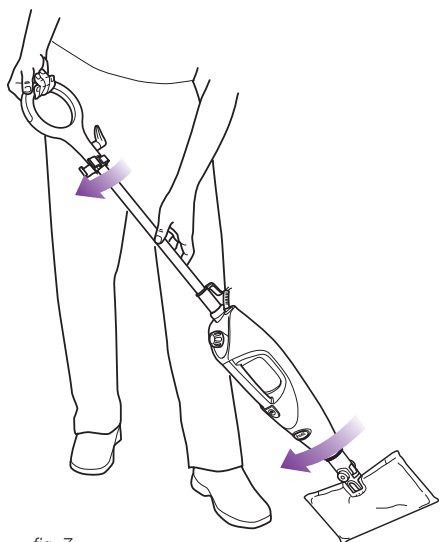

fig. 7
- 6 Use the shaggy side of the cleaning pockets to lift up and lock away all the dirt and debris and the scrubbing side to break up the tough stains. **(fig. 7)**